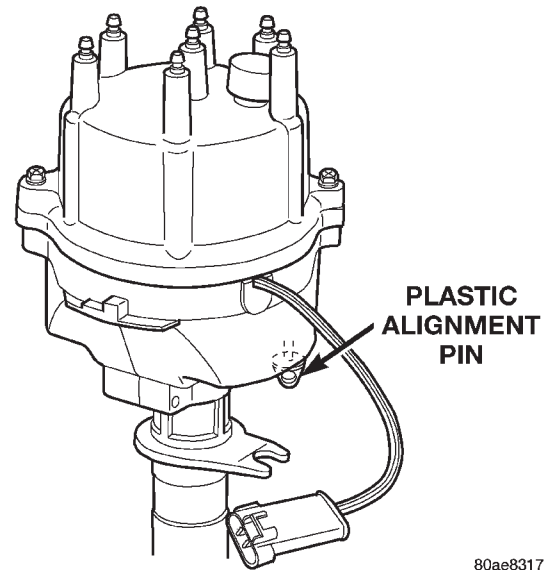
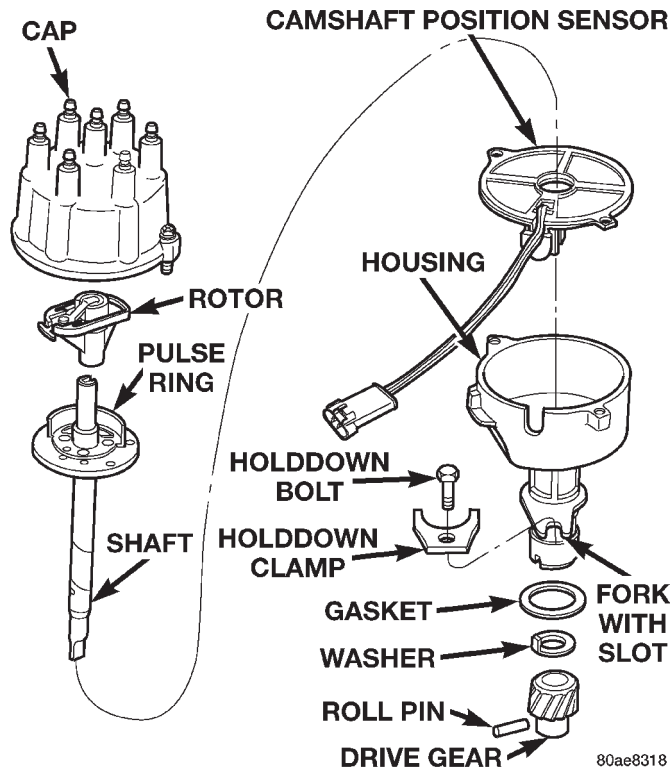
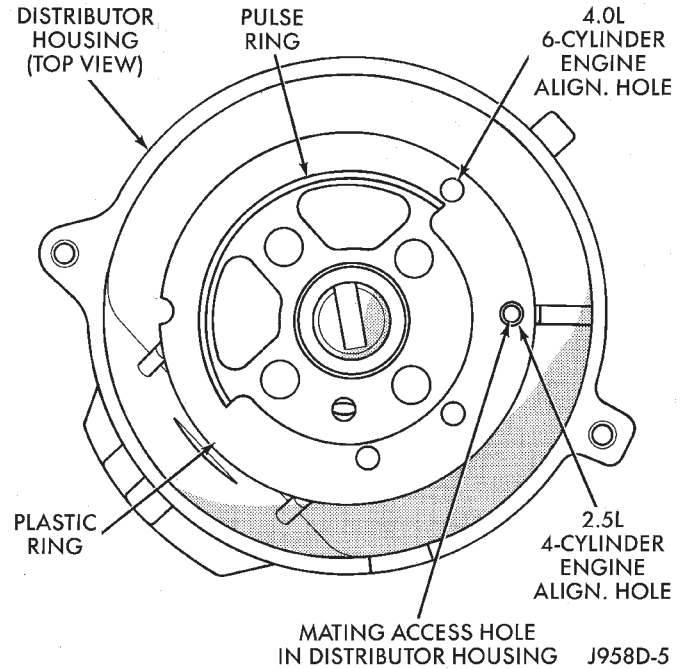

Fig. 25 Plastic Alignment Pin
Fig. 26 Distributor—2.5L Or 4.0L Engines—Typical
Fig. 30 Pin Alignment Holes
utor housing (Fig. 25). It is used to temporarily lock the rotor to the cylinder number 1 position during installation. The pin must be removed after installing the distributor.
The camshaft position sensor is located in the distributor on all engines (Fig. 26). For removal/installation procedures, refer to Camshaft Position Sensor. Distributor removal is not necessary for sensor removal.
Refer to (Fig. 26) for an exploded view of the distributor.
A fork with a slot is supplied on the bottom of the distributor housing where the housing base seats against the engine block (Fig. 26). The centerline of the slot aligns with the distributor holddown bolt hole in the engine block. Because of the fork, the distributor cannot be rotated. Distributor rotation is not necessary as all ignition timing requirements are handled by the powertrain control module (PCM).
(3) Factory replacement distributors are equipped with a plastic alignment pin already installed (Fig. 25). This pin is used to temporarily hold rotor to cylinder number 1 firing position during distributor installation. If pin is in place, proceed to Step 8. If not, proceed to next step.
(4) If original distributor is to be reinstalled, such as during engine overhaul, the plastic pin will not be available. A 3/16 inch drift pin punch tool may be substituted for plastic pin.
(5) Remove camshaft position sensor from distributor housing. Lift straight up.
(6) Four different alignment holes are provided on plastic ring (Fig. 30). **Note that 2.5L and 4.0L engines have different alignment holes (Fig. 30).**
(7) Rotate distributor shaft and install pin punch tool through proper alignment hole in plastic ring (Fig. 30) and into mating access hole in distributor housing. This will prevent distributor shaft and rotor from rotating.
(8) Clean distributor mounting hole area of engine block.
(9) Install new distributor-to-engine block gasket (Fig. 26).
(10) Install rotor to distributor shaft.